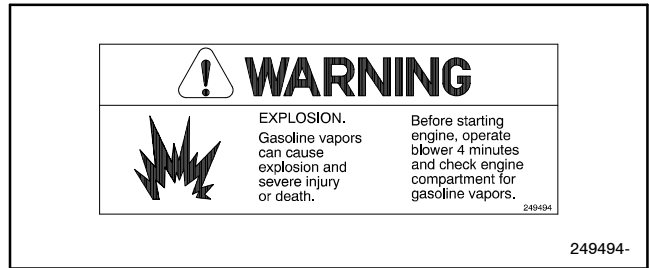

Figure 6 Warning Decal
- 2.4 For gasoline-powered generator sets, select a location as near as practical to the generator remote digital gauge for mounting the warning decal. The decal should be visible when starting the generator set from the remote digital gauge. Before applying the decal, ensure that the surface is clean and dry. See Figure 6.